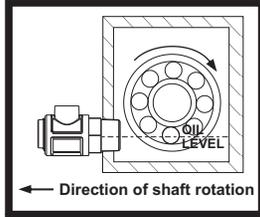

Fig. 1
5. Hand tighten Watchdog in a port where the centerline of the main body is at the optimum fluid level (Fig. 1).